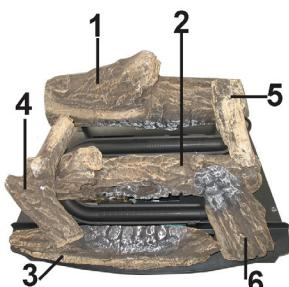

Figure 10 - Installing Log Set
**⚠️ IMPORTANT:** Make sure logs do not cover any burner ports (see Figure 10).